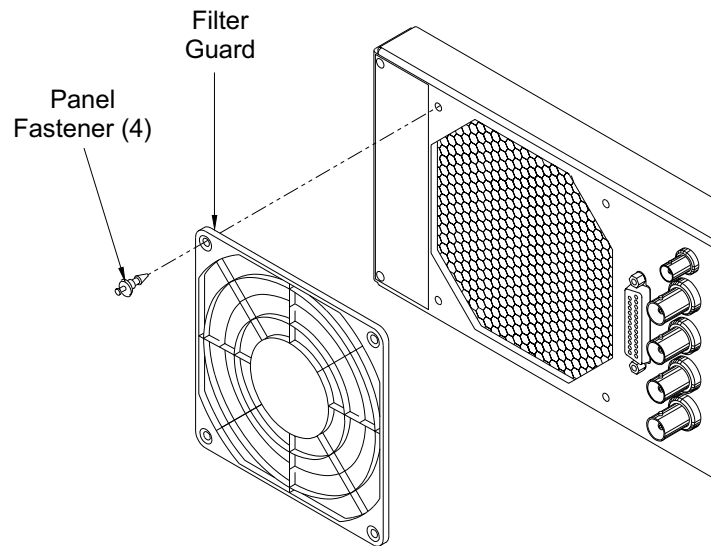

Figure 1-3. Removing/Replacing the Fan Filter Guard
- Step 1** Remove the filter guard from the rear panel by pulling out on the four panel fasteners holding them in place (Figure 1-3).